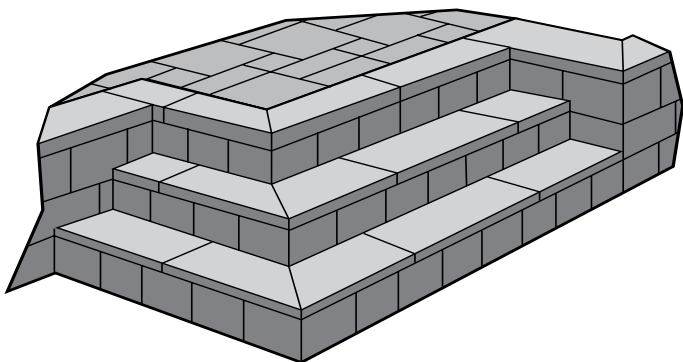

Figure 45. L-shaped and pyramid steps.
*L-shaped and pyramid steps* - These structures are simply a wall with an inside and outside corner, and the course of the wall between the two corner steps back at 12" (300mm) per course. After an entire riser is placed, the coping stone is then positioned on top and secured with Unilock Concrete Adhesive. On the system, some trimming of the locking key on the outside corner unit will be necessary on each course. The next riser is then positioned so the face of the unit is in contact with the back of the coping stone on the lower step. All proper backfill and compaction procedures must be followed. Be sure to place filter fabric along the back of the units to prevent washout of the fill. For extra stability, an extra course of units should be placed under the bottom step and adjacent walls (Figure 45).